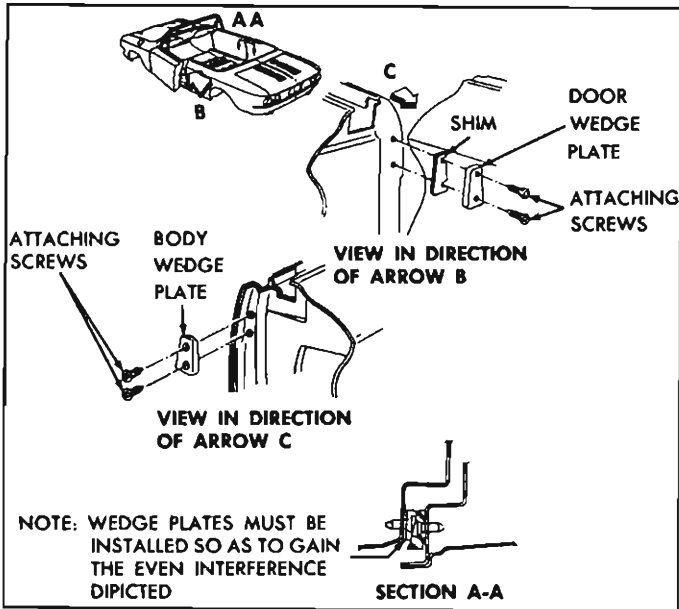

Fig. 30—Door Wedge Plates
1. Remove two screws securing wedge plate to body panel and remove wedge plate (See Figure 30).